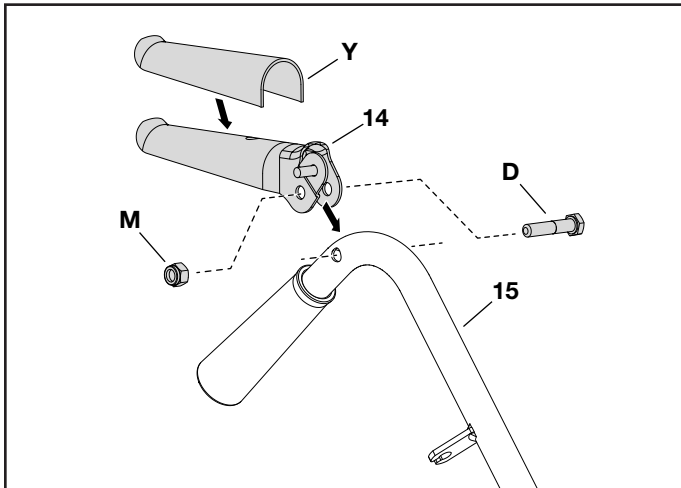

FIGURE 10
STEP 10: (SEE FIGURE 10)
- Attach the release grip assembly (14) to the lift handle tube assembly (15) using a hex bolt (D) and hex nut (M). Tighten hardware.
- Slide the grip (Y) onto the release grip assembly (14).